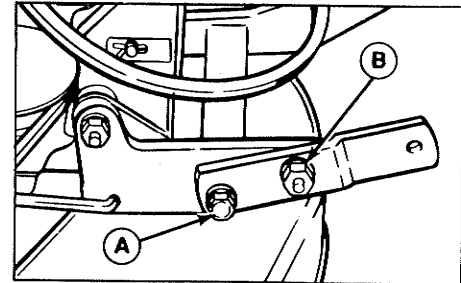

Figure 40. Mower Hitch (shown removed from tractor)
- Loosen the two capscrews (A, figure 40) and flange nuts (B) in the right mower hitch.
8. Retighten the two capscrews and flange nuts (B, figure 40).